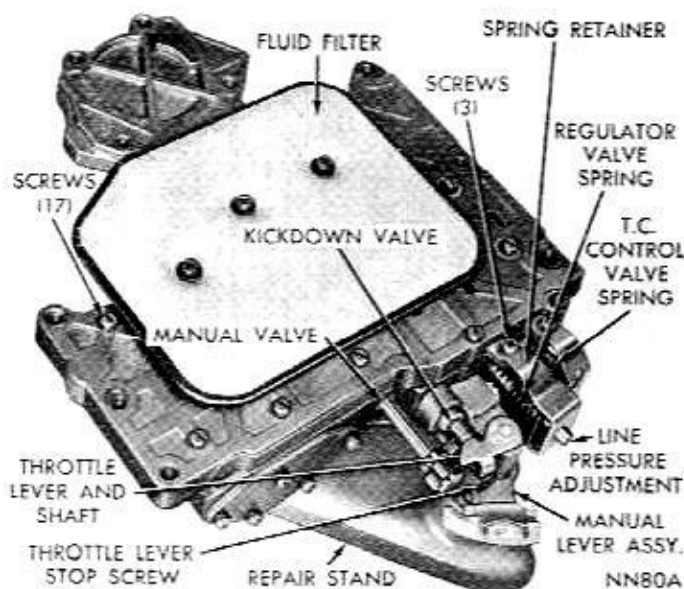

Fig. 37—Valve Body and Control Assembly
(1) Place valve body assembly on repair stand, Tool C-3749, (Fig. 37). Remove three screws from fluid filter and lift off the filter.
(2) While holding spring retainer firmly against the spring force, remove the three bracket retaining screws (Fig. 37).
(3) Remove spring retainer, torque converter control valve spring, and regulator valve spring with line pressure adjusting screw assembly. **Do not alter setting of line pressure adjusting screw and nut. The nut has an interference thread and does not turn easily on the screw.**
(4) Slide regulator valve out of valve body. Slide torque converter control valve out of valve body.
(5) Remove the transfer plate retaining screws. Carefully lift transfer plate and steel separator plate assembly off the valve body.
(6) Invert transfer plate assembly and remove the stiffener plate. Remove remaining screws securing
(14) Position torque converter valve spring and regulator valve spring over ends of their respective valves. Place line pressure adjusting screw assembly on end of regulator valve spring with long dimension of nut at right angles to valve body (Fig. 37).
(15) Install spring retainer, making sure converter valve spring is engaged on the tang and position squarely in retainer. Tighten the three retaining screws to 28 inch-pounds (Fig. 37).